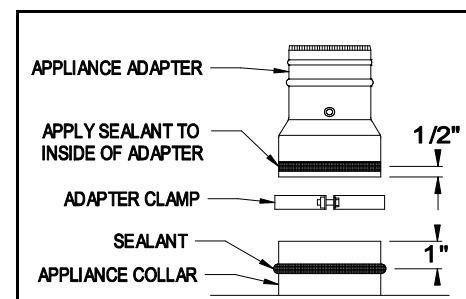

Figure 5
1. Apply a bead of sealant to appliance collar approx. 1" from end of collar (Figure 5).
2. Remove all oil and grease from the inside of the appliance adapter, and apply a bead of sealant to inside of adapter 1/2" from end (Figure 5).
5. Assemble adapter clamp halves using the supplied 5/16" bolts and square nuts, and install the appliance clamp onto the adapter and tighten securely (Figure 5).